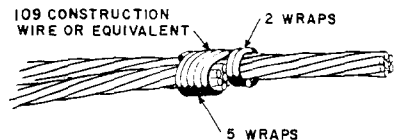

Fig. 18—Guy Tail Served with 109 Wire
- (d) As an alternate method secure the end of tail of guy by means of 109 steel construction wire as shown in Fig. 18.